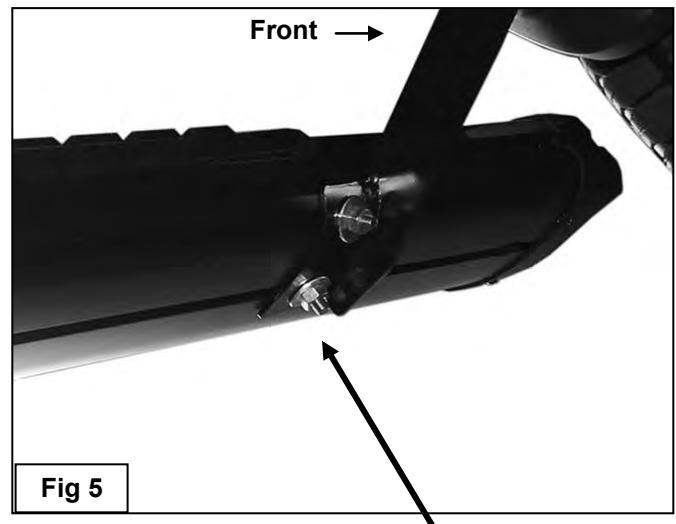

Fig 5
7. Line up the front of the Sidebar approximately 2" back, (or locate as desired), from the front wheel opening. Attach the Sidebar to the Mounting Brackets with (4) 8mm Flat Washers, (4) 8mm Lock Washers and (4) 8mm Hex Nuts, (**Figure 5**). Do not tighten hardware at this time.